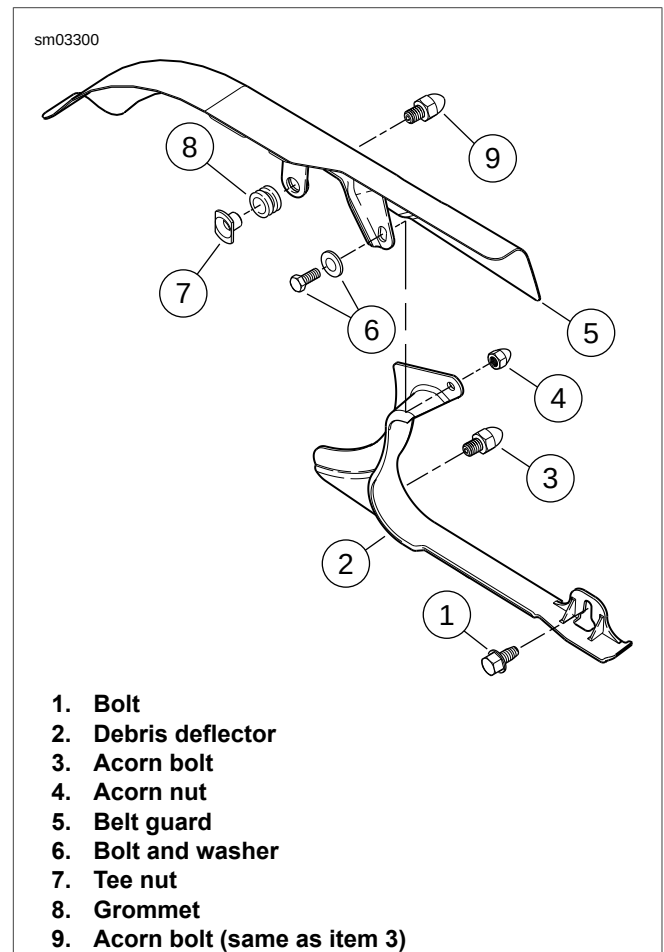

Figure 2-81. Belt Guard/Debris Deflector
2. See Figure 2-81. Remove acorn bolt (9) from tee nut (7).
3. Remove acorn nut (4) to detach belt guard (5).
1. See Figure 2-81. Place the belt guard (5) into position. Tab for bolt and washer (6) must fit inboard of tab on debris deflector (2).
2. Install bolt and washer (6) through belt guard (5), debris deflector (2) and rear fork. Install acorn nut (4) securely.
3. Install acorn bolt (9) onto tee nut (7).